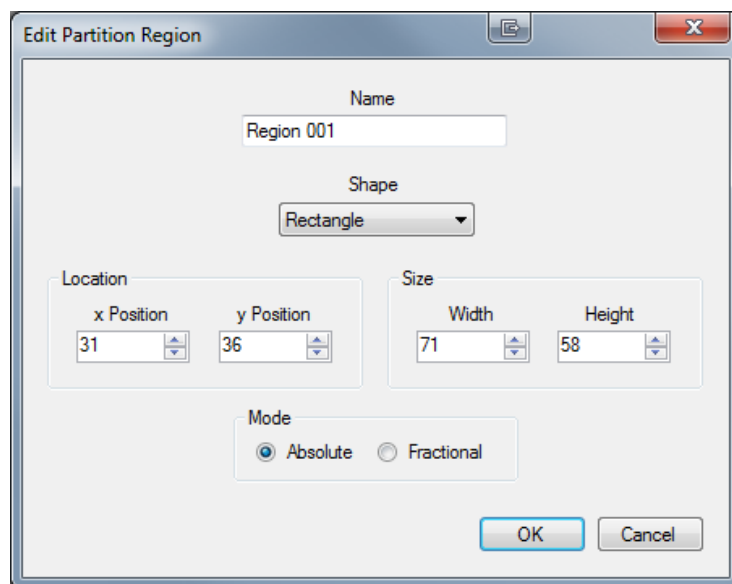

Figure 3.16 A Partition ROI Properties Window
4. Right-clicking inside any ROI and choosing **Edit...** allows the region name to be changed as well as the shape, location, size, and Mode of the domain (**Figure 3.16**). Click **OK** when complete.